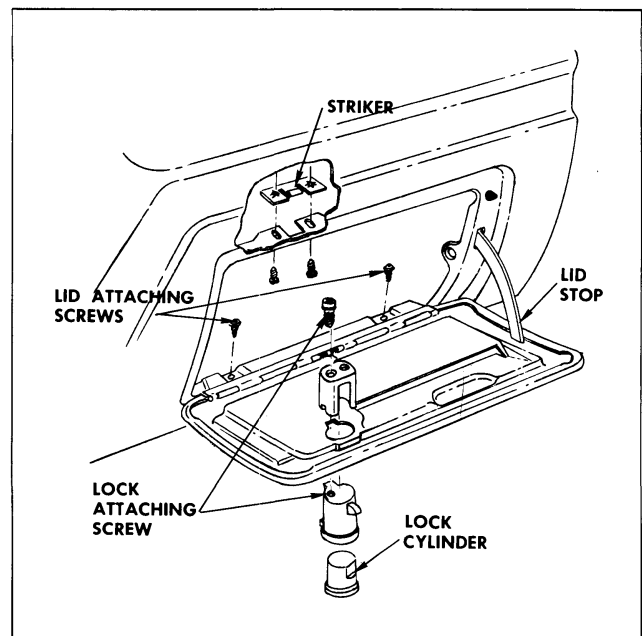

Fig. 11-12 Instrument Panel Compartment Door
The instrument panel compartment door hinges and stops are an integral part of the door. The hinges and door assemblies are attached to the instrument panel by screws. To remove door and stop assemblies, remove attaching screws securing hinge to instrument panel, (Fig. 11-12) lift up door, rotate anti-clockwise to remove stop from opening in panel. To install, reverse removal procedure.
4. Striker plates are adjustable on instrument panel. (Fig. 11-12).
Remove attaching screws and remove lock assembly (Fig. 11-12). To install, reverse removal procedure.